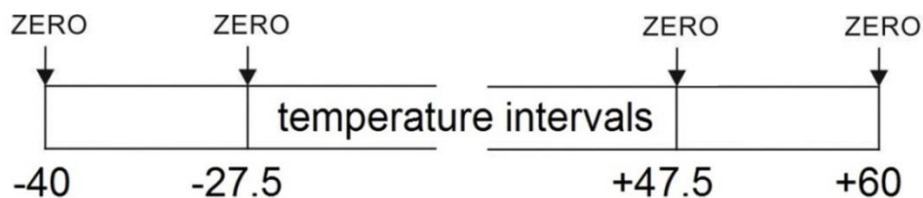

Fig. 17. Scheme of adjusting the temperature coefficients
5. When temperature is stable, for each of 9 points of temperature range send <ZERO> command, by which a current temperature ADC value and ratio  $S_t$  value (see Table 17) are written to sensor memory (see Fig. 17).